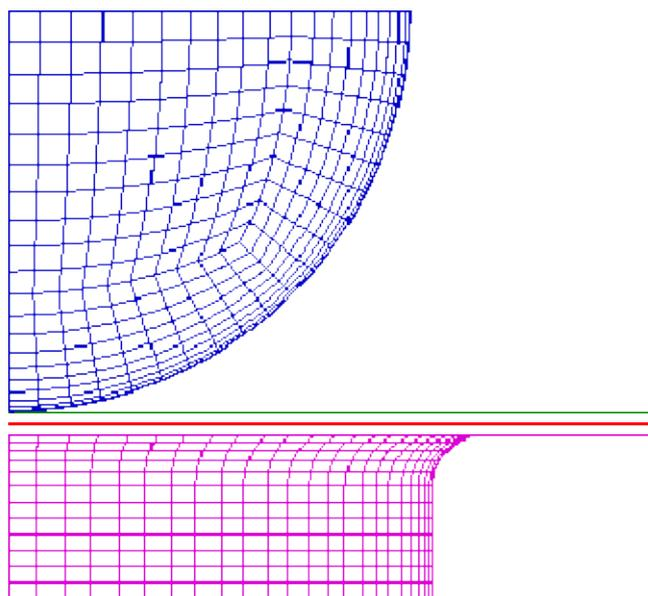

Figure 2.33 The relative position of tools and blank after positioning
4. Click  on the **Icon bar**, and then the relative position of tools and blanks during die sinking will be displayed on the screen. See figure 2.33.